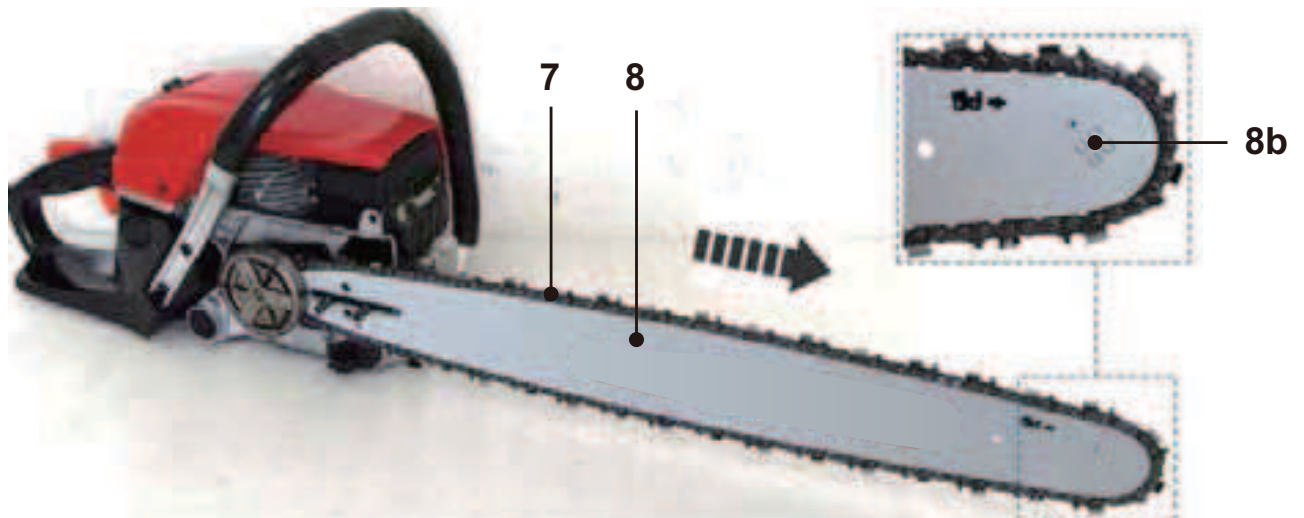

Fig. 5
- The saw chain movement is as indicated by the arrow (Fig. 5). Make sure the chain is properly placed over the sprocket wheel (8b) of the guide bar (8).
- Pull the guide bar (8) carefully towards the right to tighten the saw chain (7) (Fig. 5).